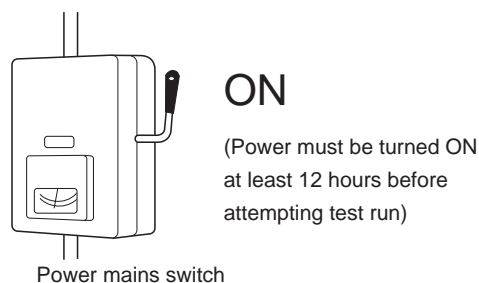

Fig. 7-1
5. The power has been supplied to the unit for at least 5 hours before starting the compressor. The bottom of the compressor should be warm to the touch and the crankcase heater around the feet of the compressor should be hot to the touch. (Fig. 7-1)